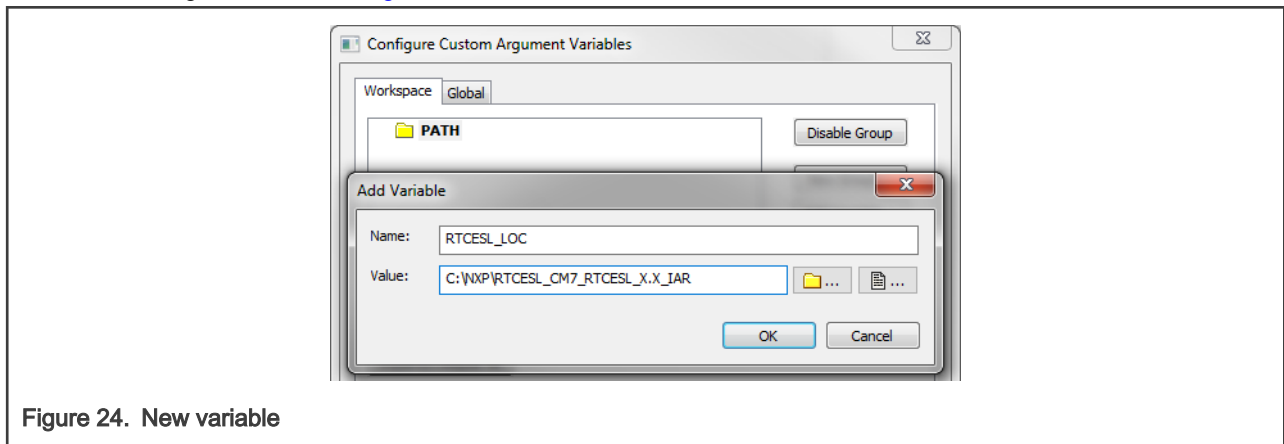

Figure 24. New variable
- In the main dialog, click OK. See Figure 24.